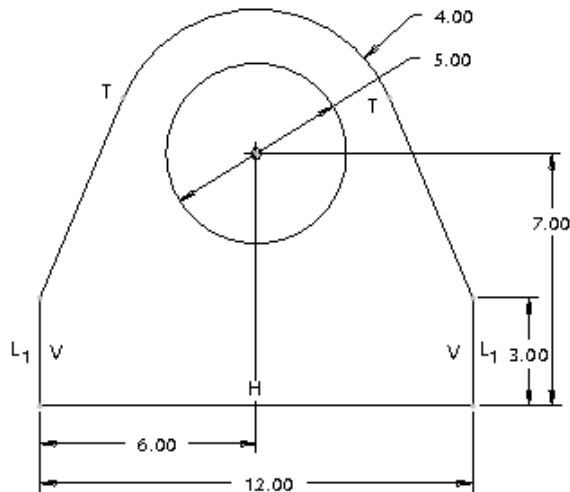

Figure 2-26 The complete sketch with dimensions and constraints
- Dimension the sketch and then modify the dimensions of the sketch, refer to Figure 2-26
5. Modify all dimensions according to the dimensions shown in Figure 2-26. After modifying the dimensions, choose the **Done** button from the **Modify Dimensions** dialog box; the message **Dimension modifications successfully completed** is displayed in the message area.
The completed sketch is shown in Figure 2-26.